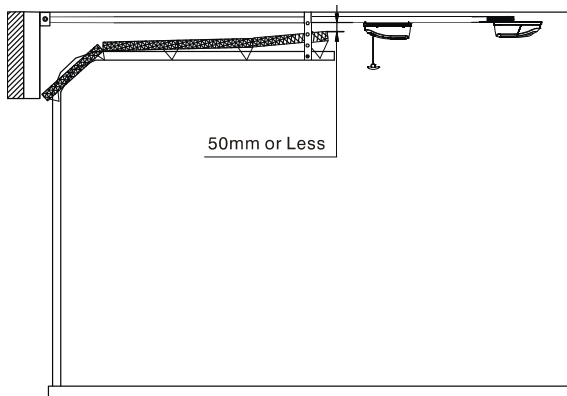

Fig. 8
- Raise the Drive Rail off the floor and rest it on a support high enough that the Drive Rail runs parallel to the ground. (Fig.8 depicts a typical sectional type garage door installation)